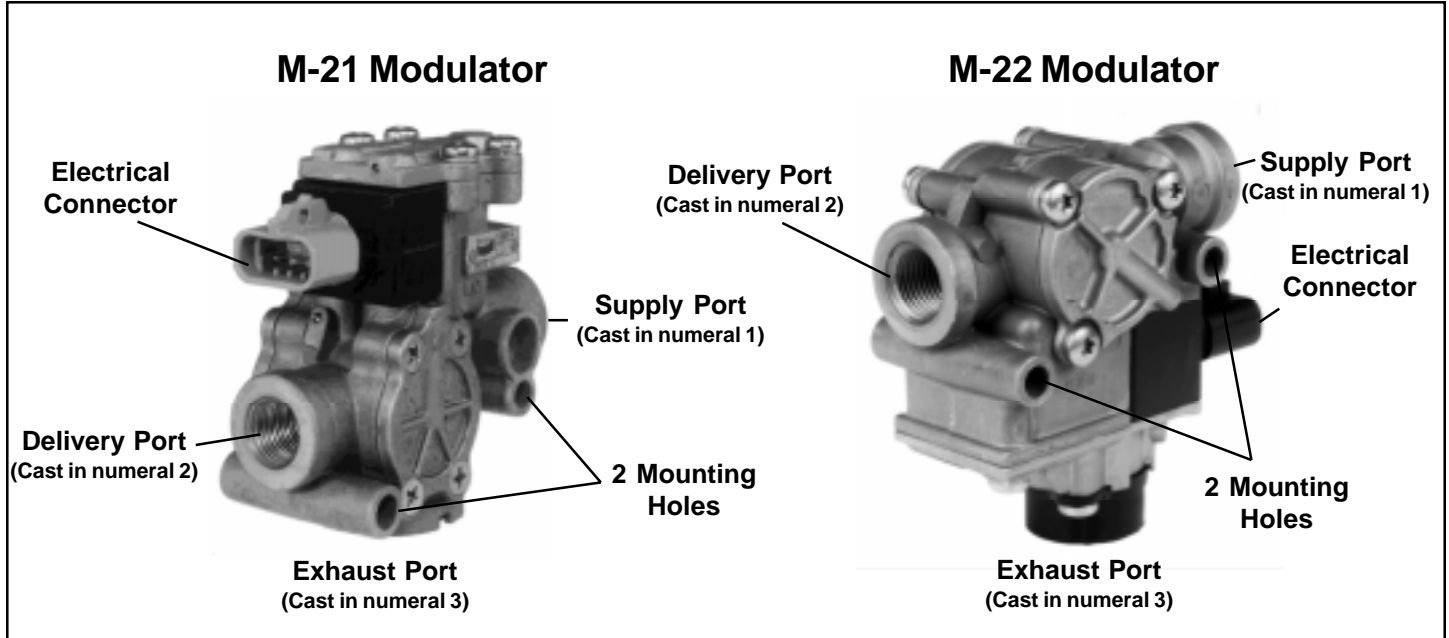

Figure 1 M-21 and M-22 Antilock Modulators
1. Identify and mark or label all air lines and their respective connections on the modulator to facilitate ease of installation (refer to figure 1).
1. Study figures 1, 2 & 3 and note where the exhaust port is located on both the M-21 and M-22. **The exhaust on both modulators must be directed toward the road surface when mounted on the vehicle.**